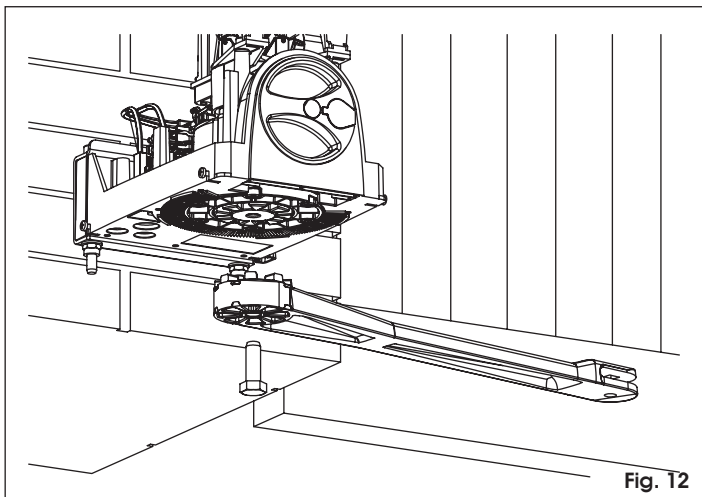

Fig. 12
6. Install the straight arm (Fig. 12) with the supplied screw.